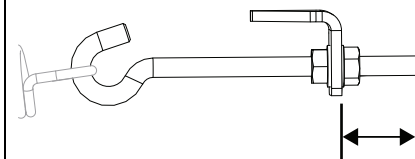

Figure 57
3. Measure spring length between threaded end of eye-bolt to eye-bolt mounting bracket at 8.26 cm (3.25") HOC position. Readjust spring tension if necessary. See Figure 57 for spring length range for each deck size.